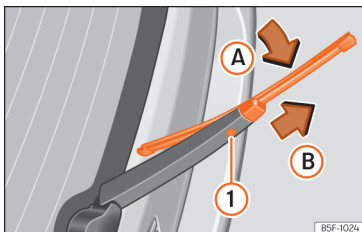

Fig. 86 Changing the rear wiper blade
- Turn the blade slightly »» Fig. 86 (arrow A).
- Hold down the release button ❶ while gently pulling the blade in the direction of arrow B.
- Insert a new blade of the **same length and type** in the rear wiper arm in the opposite direction to the arrow B and hook into place button ❶.